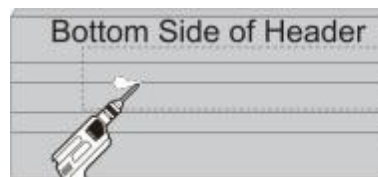

Figure 7
Step 7: Pre-drill 6 pilot holes on the header using 1/8" drill bit. **Note:** Pre-drill the holes on the retention slot. Do not pre-drill the holes on clearance hole (Figure 7).